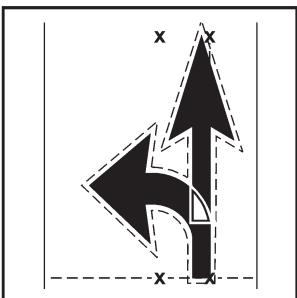

Figure 26
- Cut the overlapping portion of the straight arrow around the curve in the curve arrow (shaded portion in Figure 26).